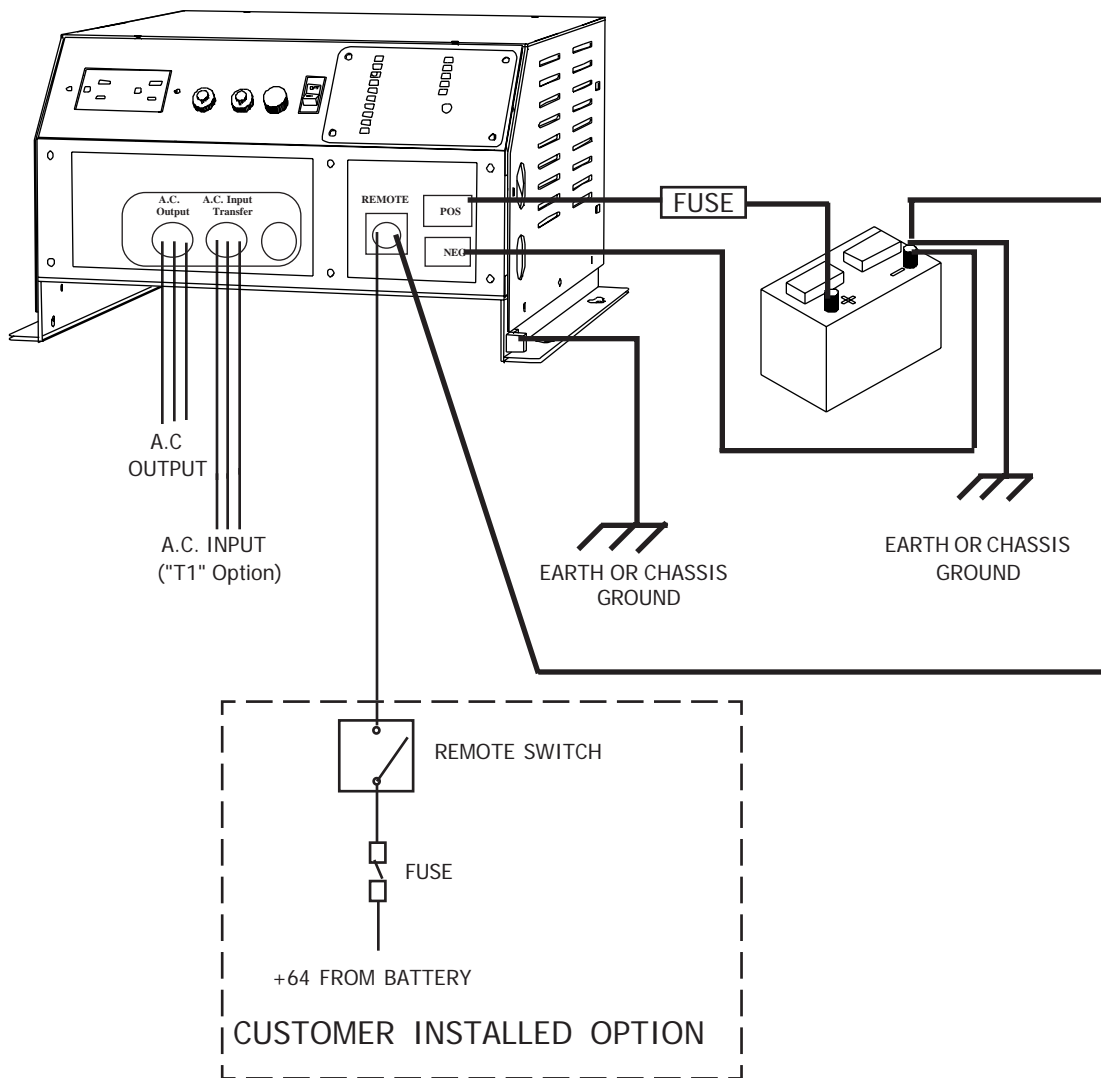

FIG. 1 INSTALLATION WIRING
3.04 Chassis Bonding Lug - FIG. 1
3.05 Battery Wiring - FIG. 1
3.06 Remote Switch for Inverter Operation - Fig. 1